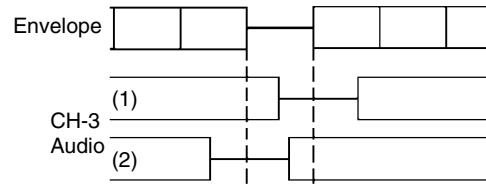

Fig. 2-3
**(Refer to item 1-2)**
3. Adjust the Guide Roller. **(Refer to item 2-1)**
**(Refer to item 2-2)**
8. Set the X Value adjustment driver (**GGF1510**) to the ④ of
**Fig. 2-2-B.** Adjust X value so that the envelope waveform output becomes maximum. Check if the relation between Audio and Envelope waveform becomes (1) or (2) of **Fig. 2-3**.